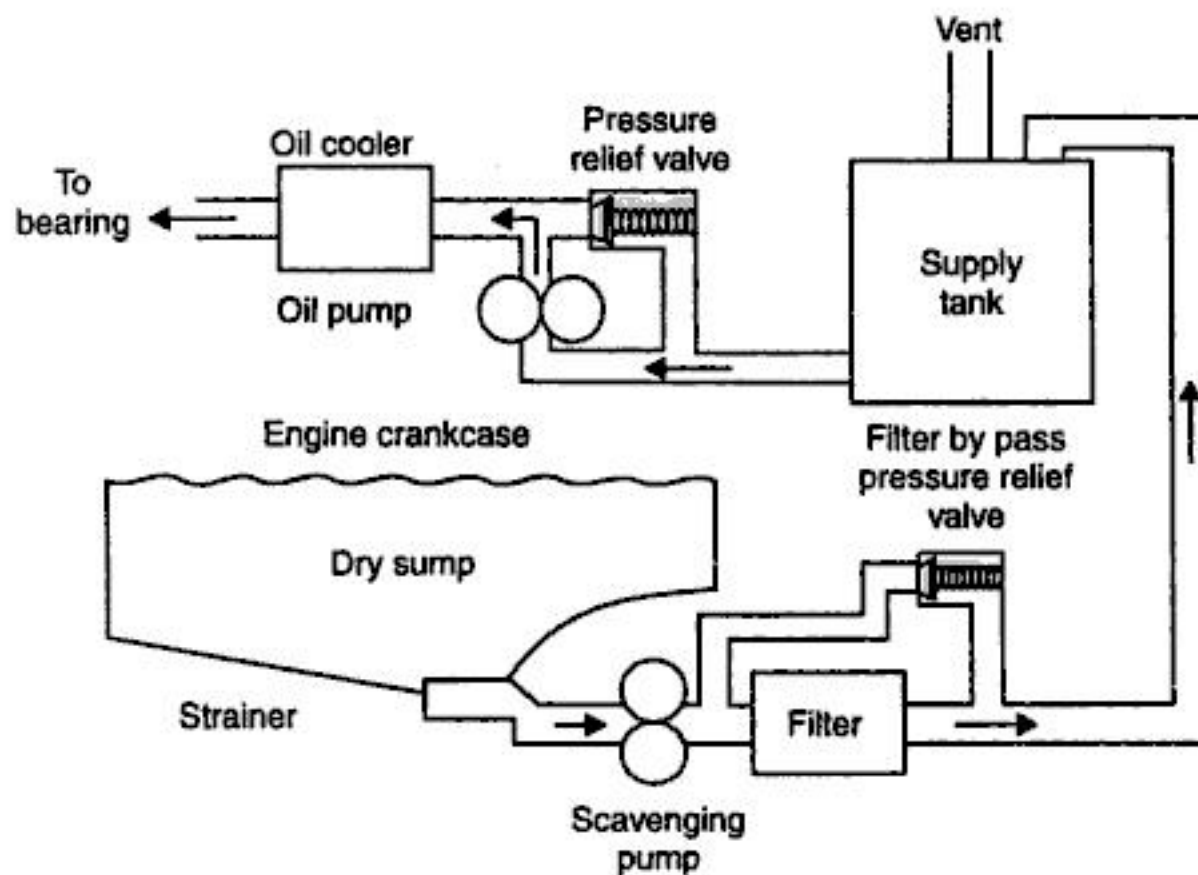

Fig. 14.10. Dry sump lubrication system.
- Refer Fig. 14.10. In this system, the oil from the sump is carried to a separate storage tank outside the engine cylinder block. The oil from sump is pumped by means of a sump pump through filters to the storage tank. Oil from storage tank is pumped to the engine cylinder through oil cooler. Oil pressure may vary from 3 to 8 bar.